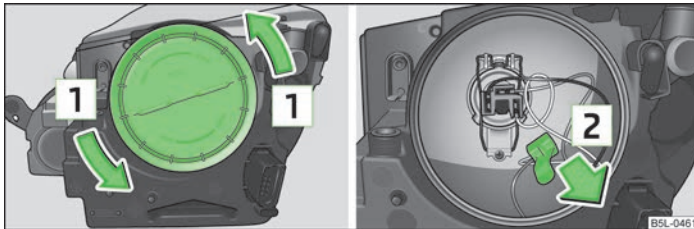

Fig. 168 Removing the bulb arrangement/fixture for the parking light (Halogen headlight)
- Turn the rubber cover in the direction of arrow **1** **OPEN** » Fig. 168 and remove.
- Remove the fixture in the direction of arrow **2** » Fig. 168.
- Turn the rubber cover in the direction of arrow **1** **OPEN** » Fig. 168 on page 205 and remove.